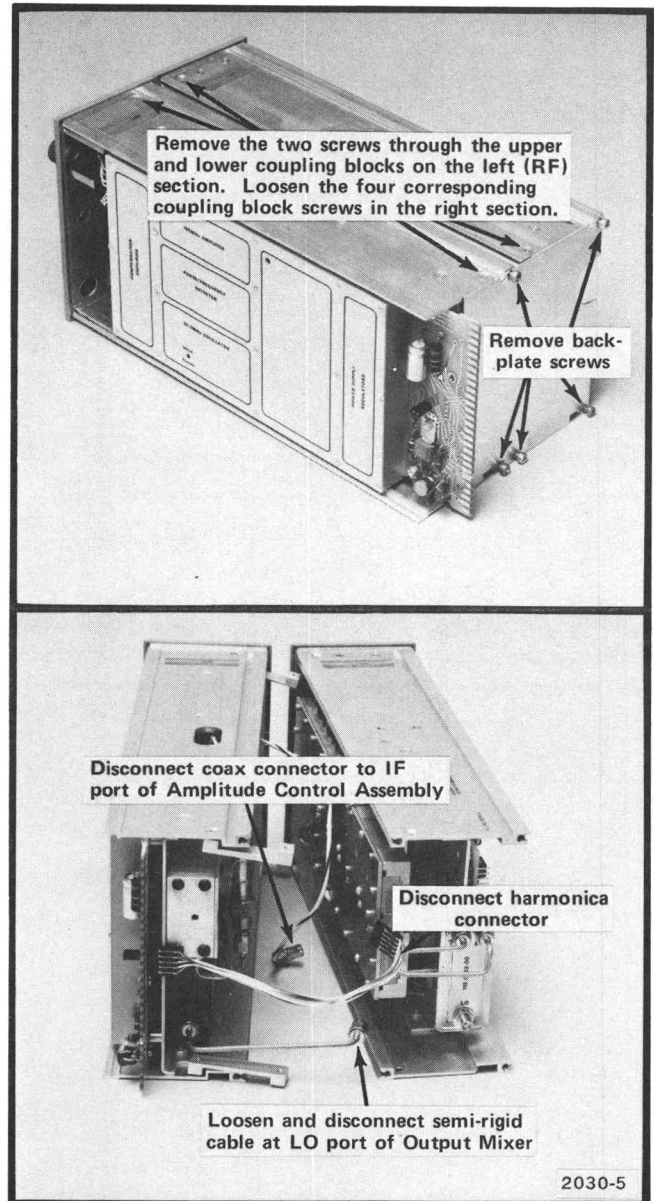

Fig. 6-6. Procedure for separating the two sections of the TR 501.
1. Separate the two sections of the instrument as shown in Fig. 6-6.